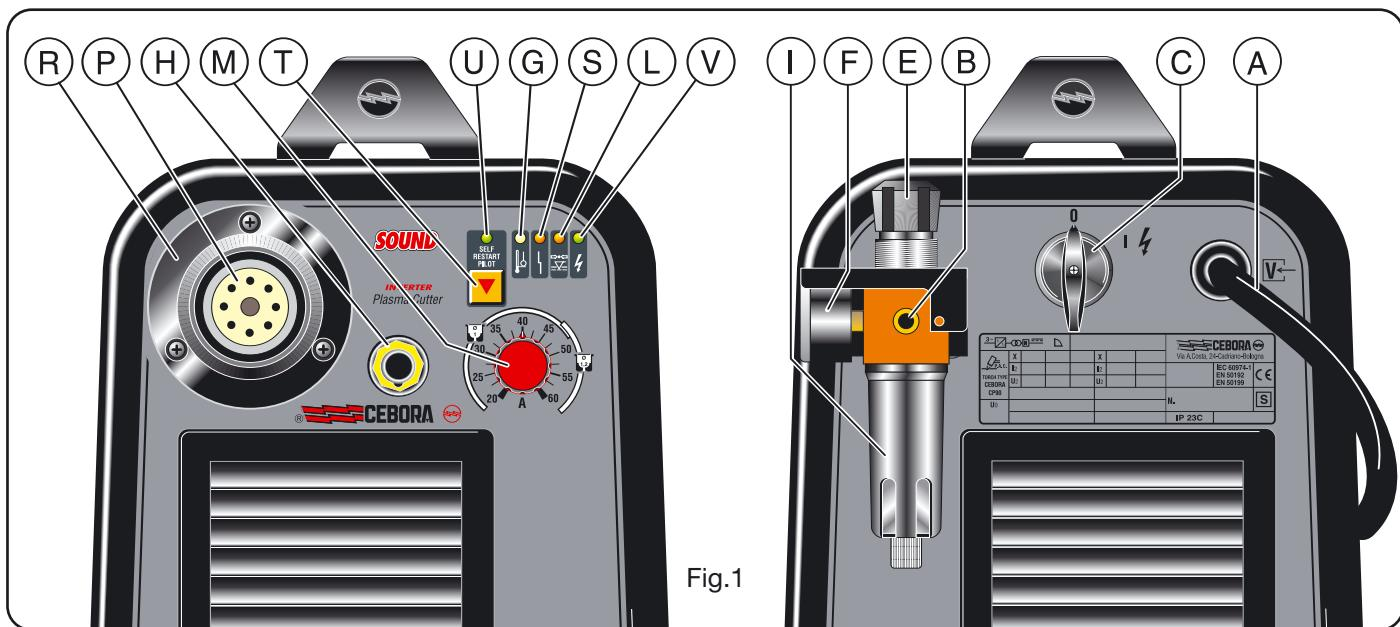

Fig.1
### 2.1 TORCH ASSEMBLY (Fig. 1)
1) To avoid overloads. It is evidenced by the **G** led continuously on (see fig.1).
Located on the torch inlet to prevent low air pressure. The LED **L** lights when tripped (see fig.1).